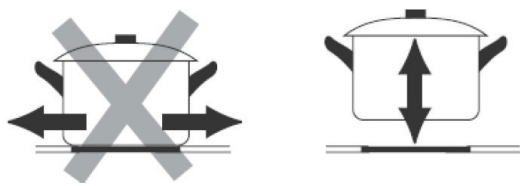

Fig. 3
- Coarse bottoms of cookware could scratch the ceramic glass plate. Check the cookware bottom regularly. Cookware with coarse bottom can cause scratches of the hob. Always lift these objects up when you have to move them on the cooking surface (Fig. 3). To protect the hob from being scratched.